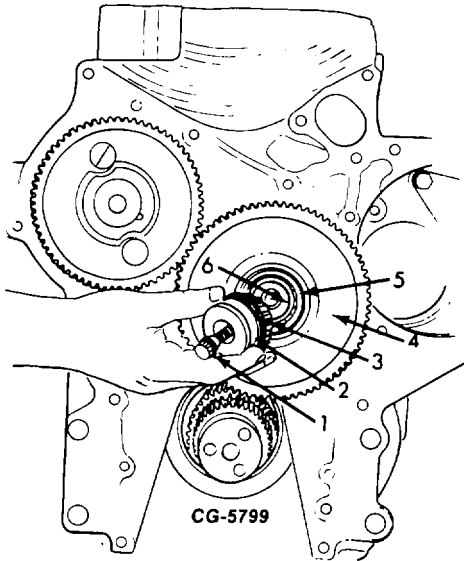

Figure 12. - Removing Idler Gear
1. Remove the retainer bolt (1, Fig. 12), stub shaft (2) and bearing (3). A split ring prevents the bearing from coming off the stub shaft.
2. Remove the idler gear (4, Fig. 12), bearing (5) and spacer (6) as shown.